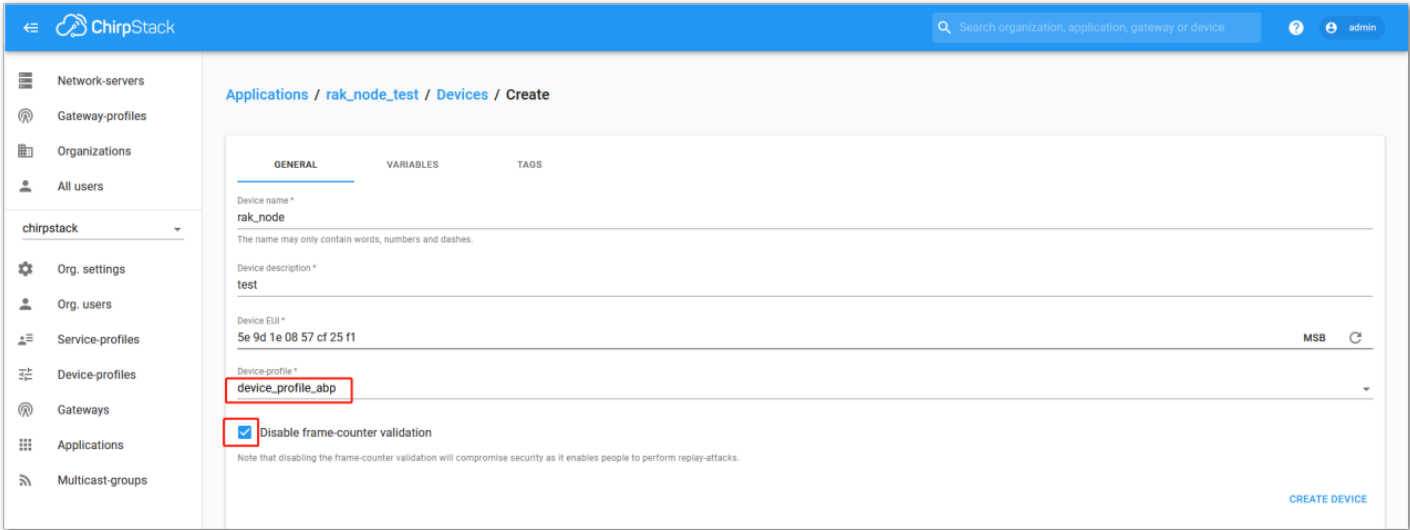

Figure 214: ChirpStack Console, Configuring a Device
1. During the registration of a new device, if you select “**DeviceProfile_ABP**”, as shown in **Figure 214**, then the ChirpStack platform will assume that this device will join the LoRaWAN network using the ABP mode.